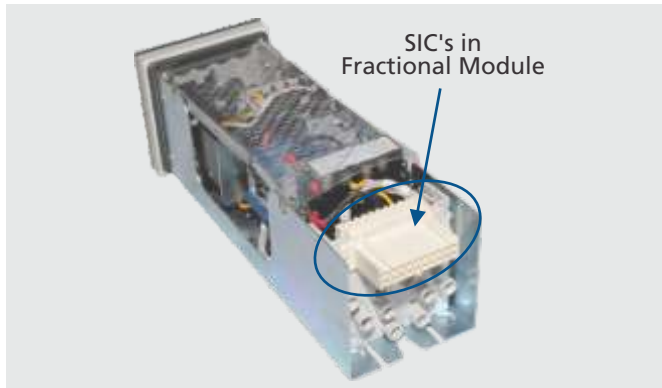

Figure 24 - SICs in a fractional module
13. SIC Mounting in Fractional modules Figure 24.